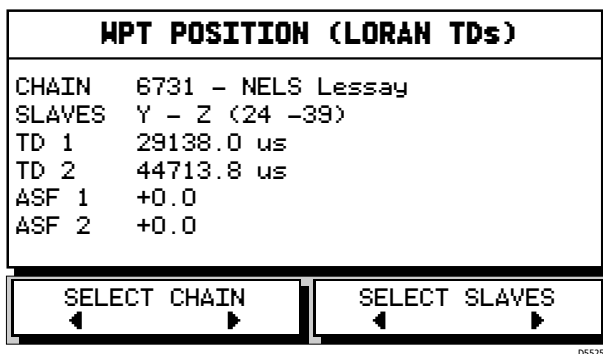

Figure 3-21: Select Chain/Slaves Screen
- i. the CHAIN soft key, which enables selection of both the Chain and it's Slaves, see *Figure 3-21*;